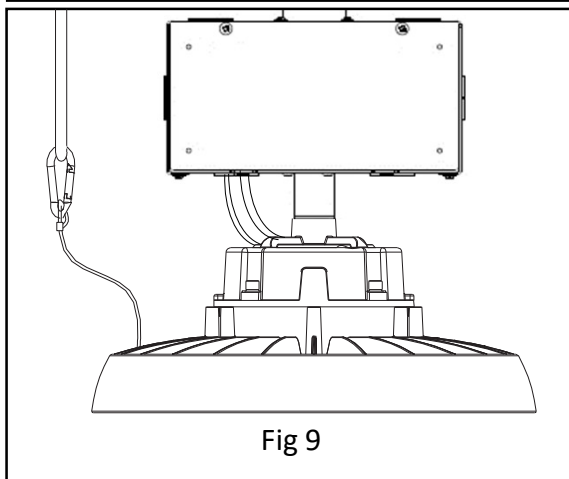

Fig 9
7. Attach the supplied safety cable to a secure structure. *See Fig 9.*